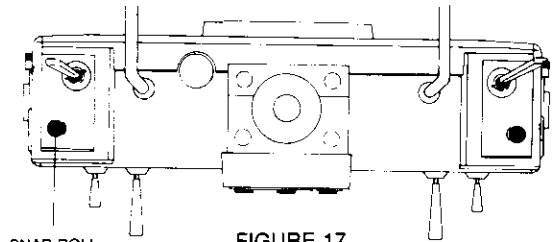
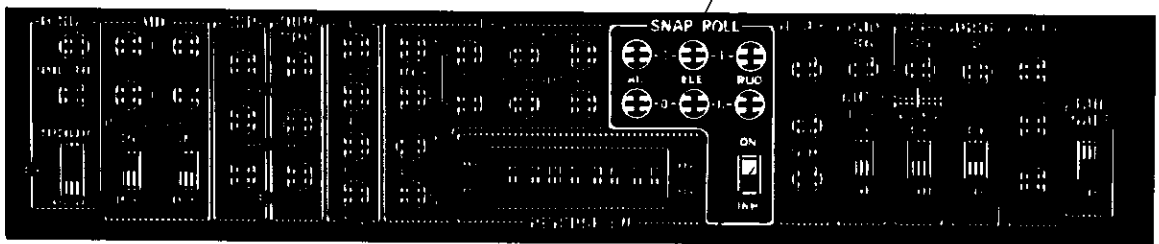

FIGURE 17
FIGURE 18
The use of the Snap Roll Button (23) assures you of perfectly executed snap rolls every time. (Figure 17). By proper positioning of the Snap Roll Trimmers, either left or right from center position, for aileron, elevator, and rudder, you can select the type of snap roll desired. For safety reasons, the snap roll function can be completely disabled by placing the SNAP ROLL switch, (Figure 18) located on the trimmer panel in the "INH" position. The SNAP ROLL L.E.D. will blink when the snap roll switch is placed in the "ON" position. Depressing the Snap Roll button (23) activates the snap function. Snap direction is determined by the position of the snap roll trimmers. Centering the trimmers will produce minimum control surface deflection. Note that Snap Roll I or II can be selected by the Snap Roll Select Switch (29).